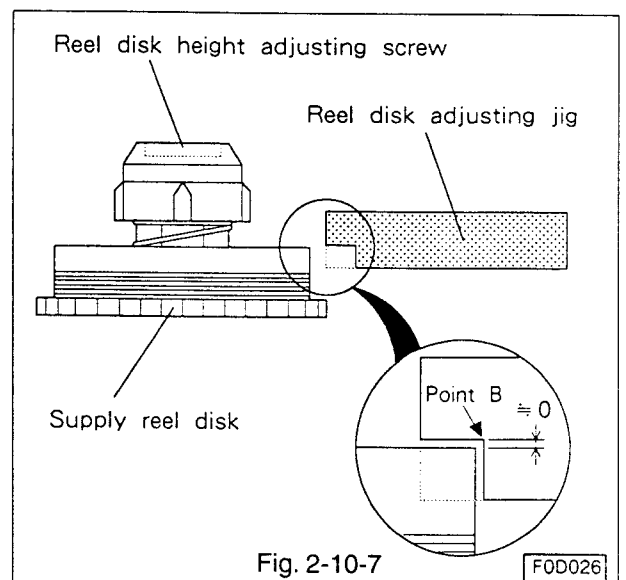

Fig. 2-10-7
- K. Slowly turn the jig about the point A and make sure that the height of the supply reel disk flange shall agree with the point B on the supply disk adjusting side of the jig (marked SP).(Refer to Fig. 2-10-7.)